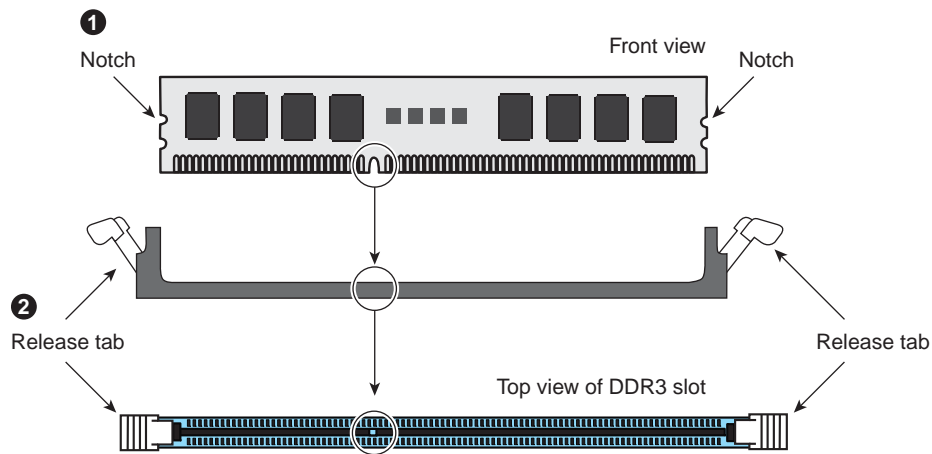
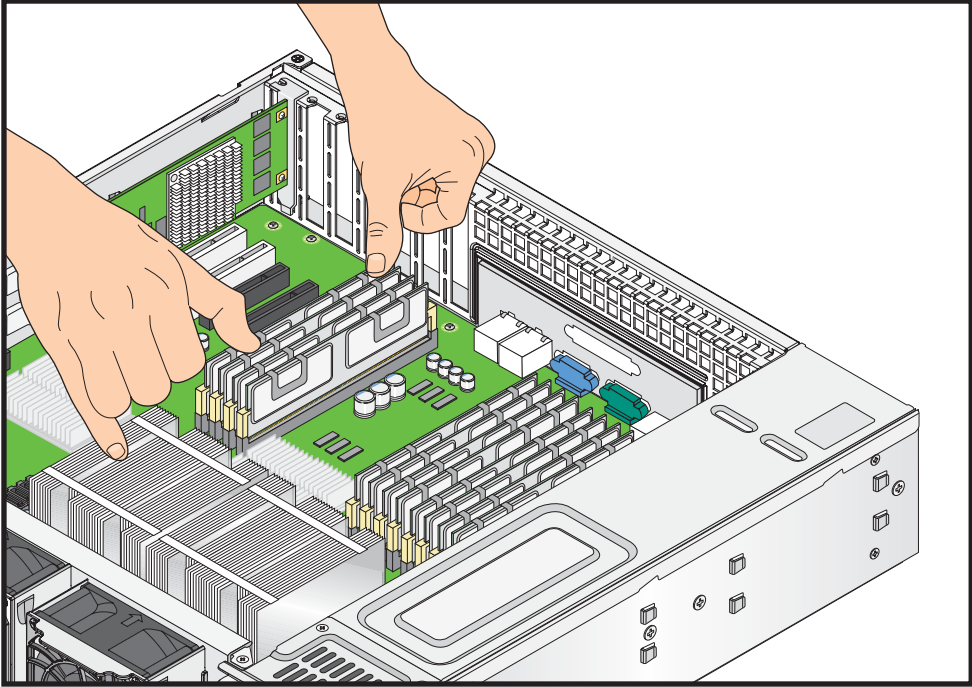
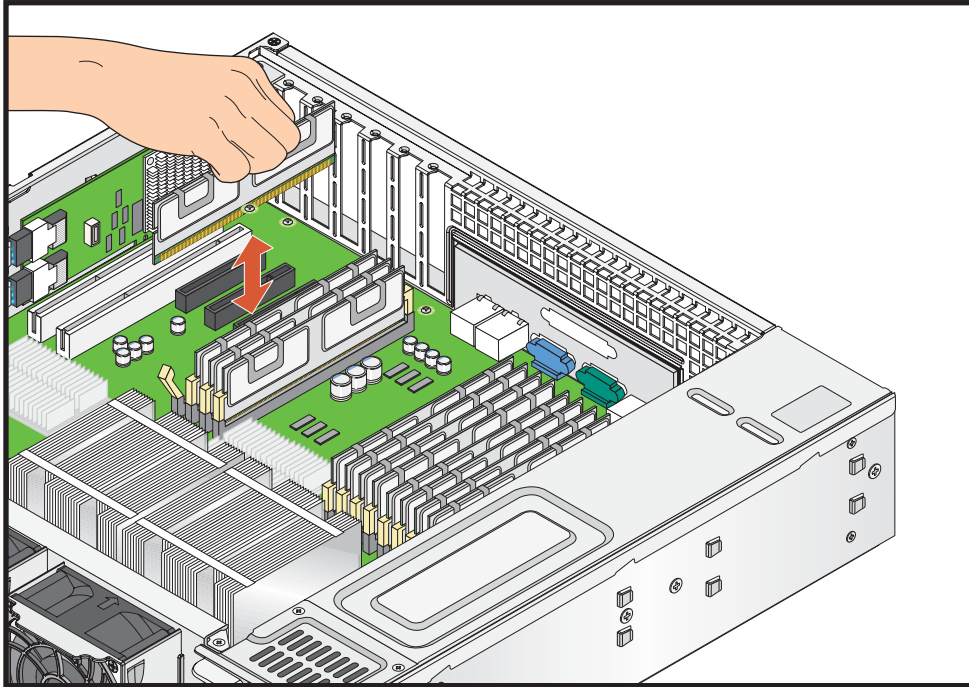

Figure 5-4 DIMM Installation
Figure 5-5 Installing DIMM Modules
Figure 5-6 Removing a DIMM Module
1. Insert the DIMM module vertically and press down into its slot until it snaps into place. Pay attention to the alignment notch at the bottom of the module to avoid installing incorrectly (see Figure 5-4 and Figure 5-5). Insert the desired number of DIMMs into the memory slots, beginning with DIMM #1A and DIMM #2A, then DIMM #3A and DIMM #4A, etc. (see
2. To remove a DIMM module, use your thumbs to gently push the release tabs near both ends of the module (see Figure 5-4). This should release it from the slot (see Figure 5-6).